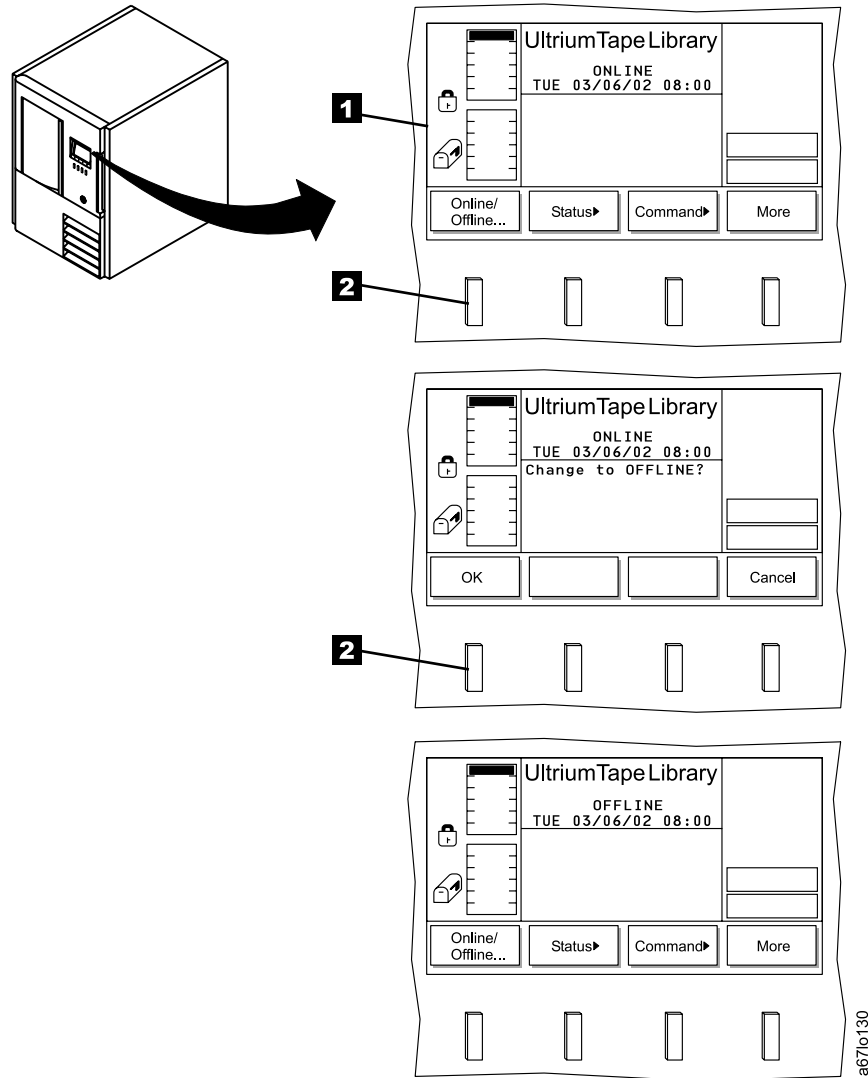

Figure 44. Operator panel
8. The library firmware automatically initializes and starts the inventory/teach process. When the Main Menu displays on the operator panel (**1** in Figure 44), place the library in the Offline state by pushing the button **2** below the **Online/Offline** softkey. Follow the instructions on the screen, then push the button **2** below the **OK** softkey.